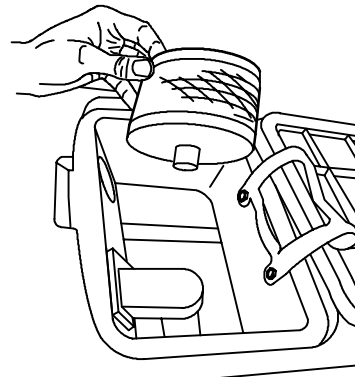

FIG. 59
3. If equipped with ES option, remove ES filter from recovery tank and clean (Figure 59).